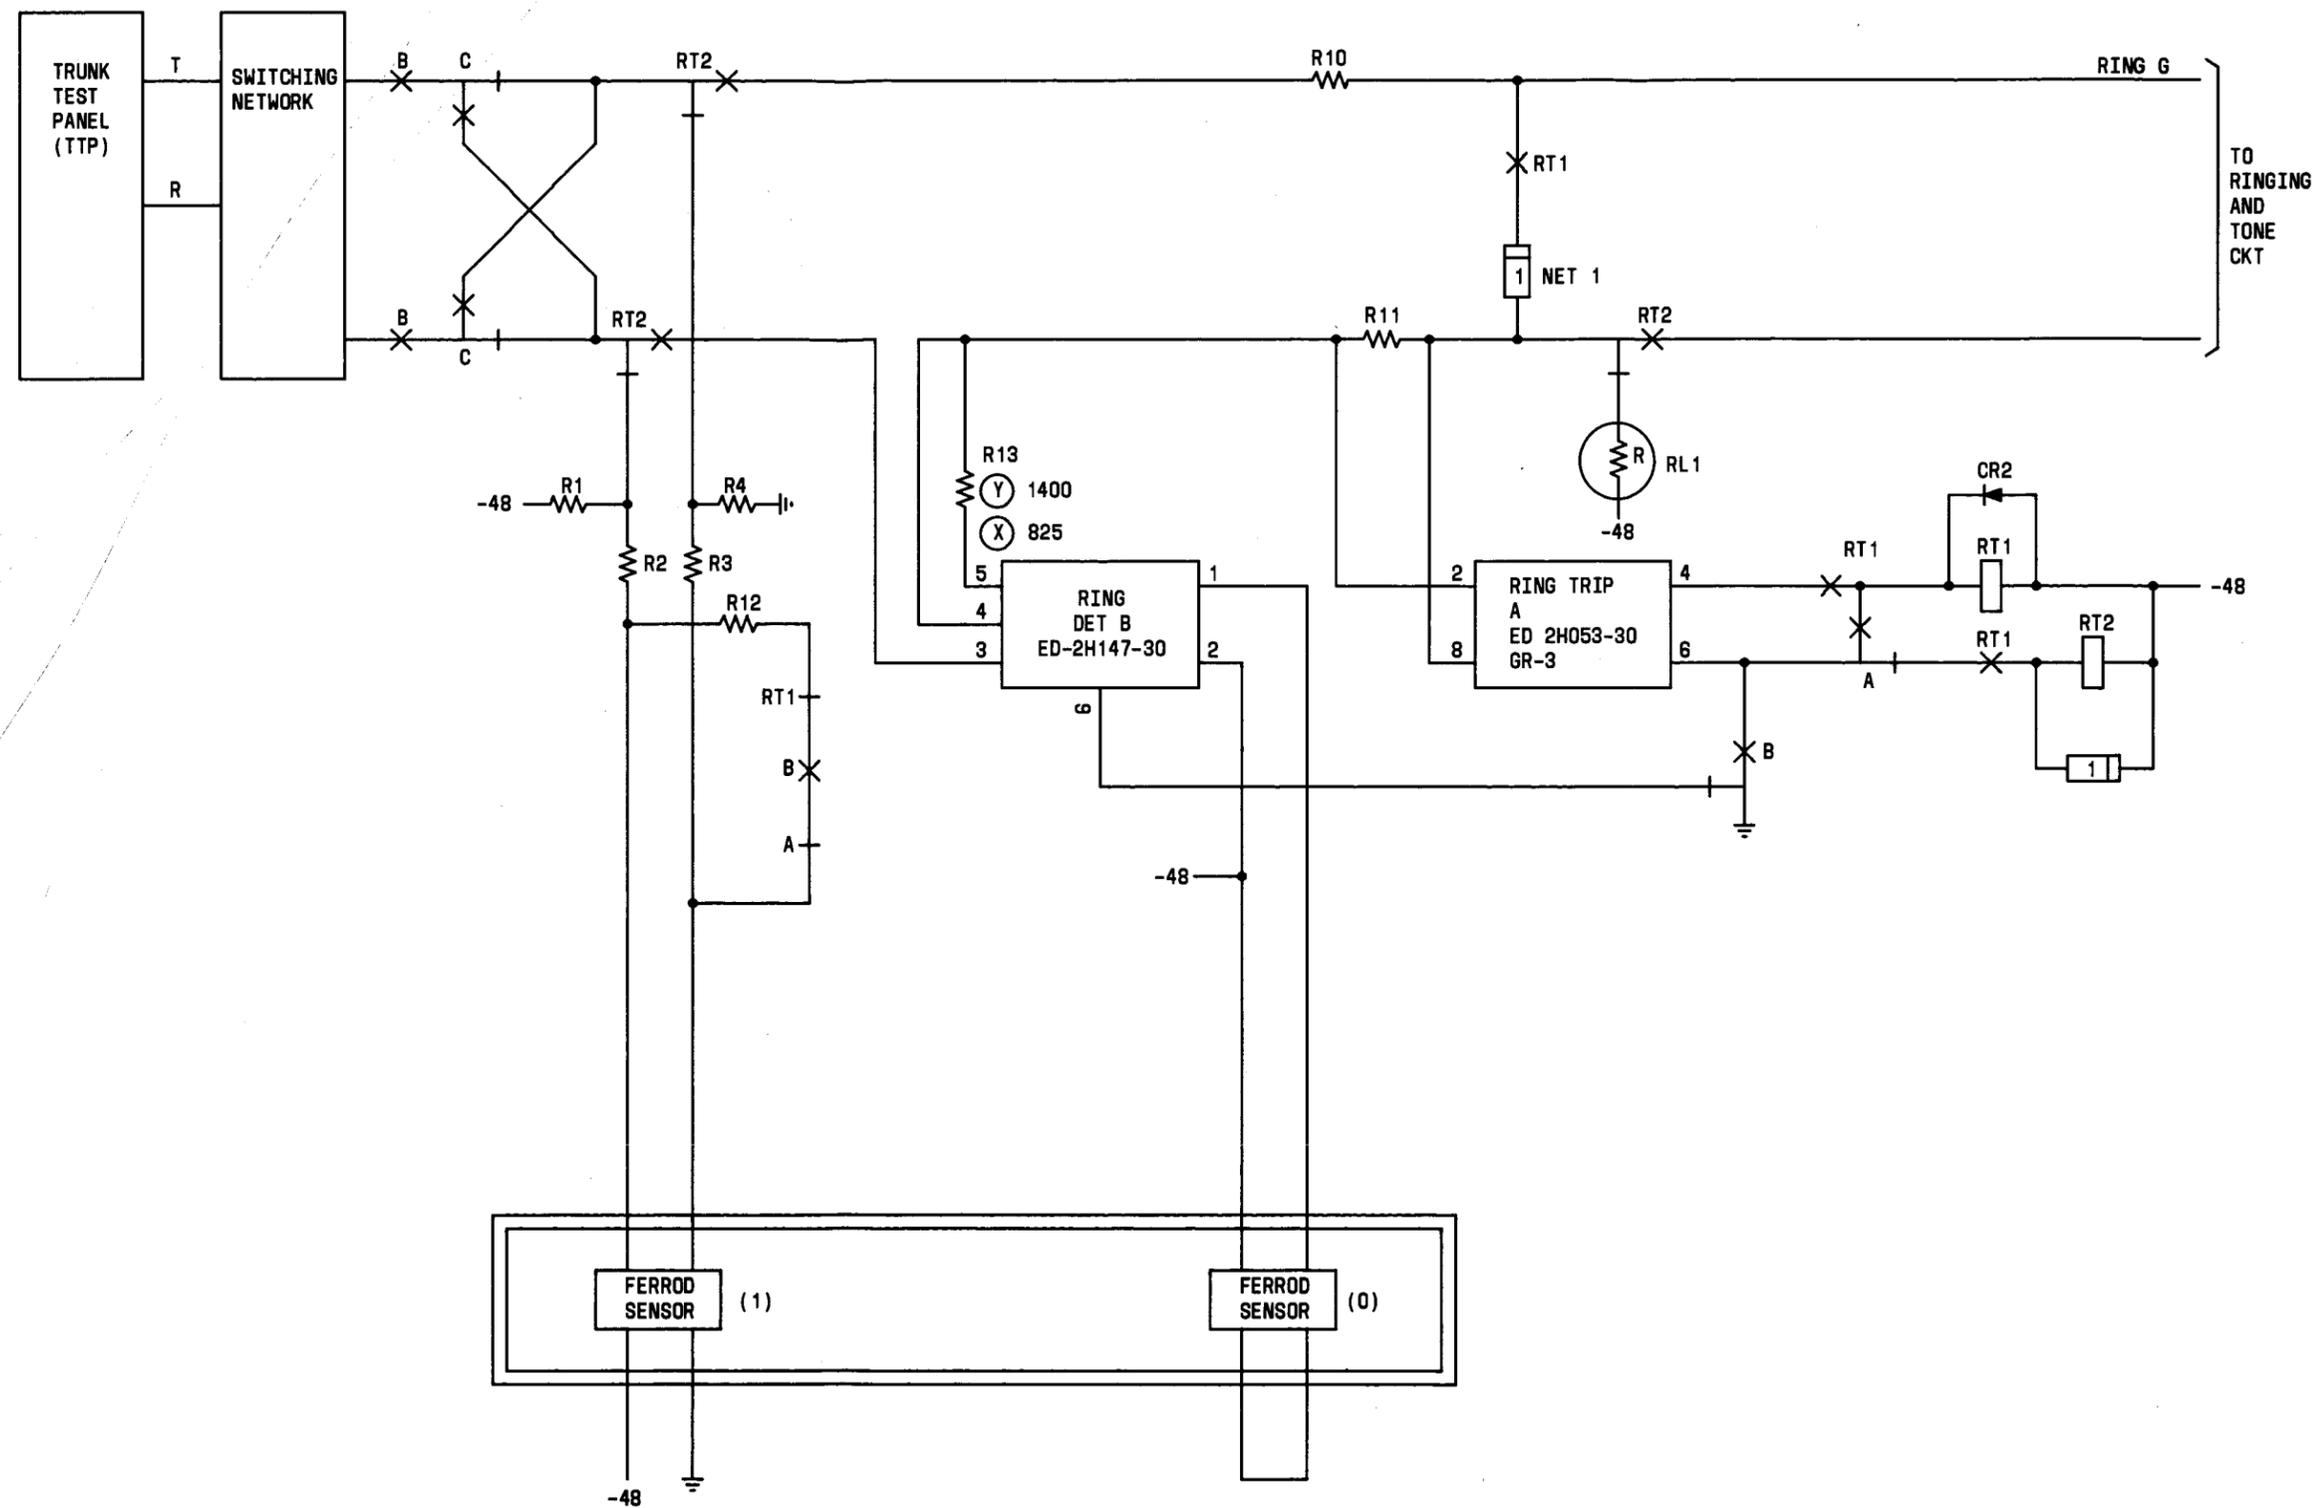
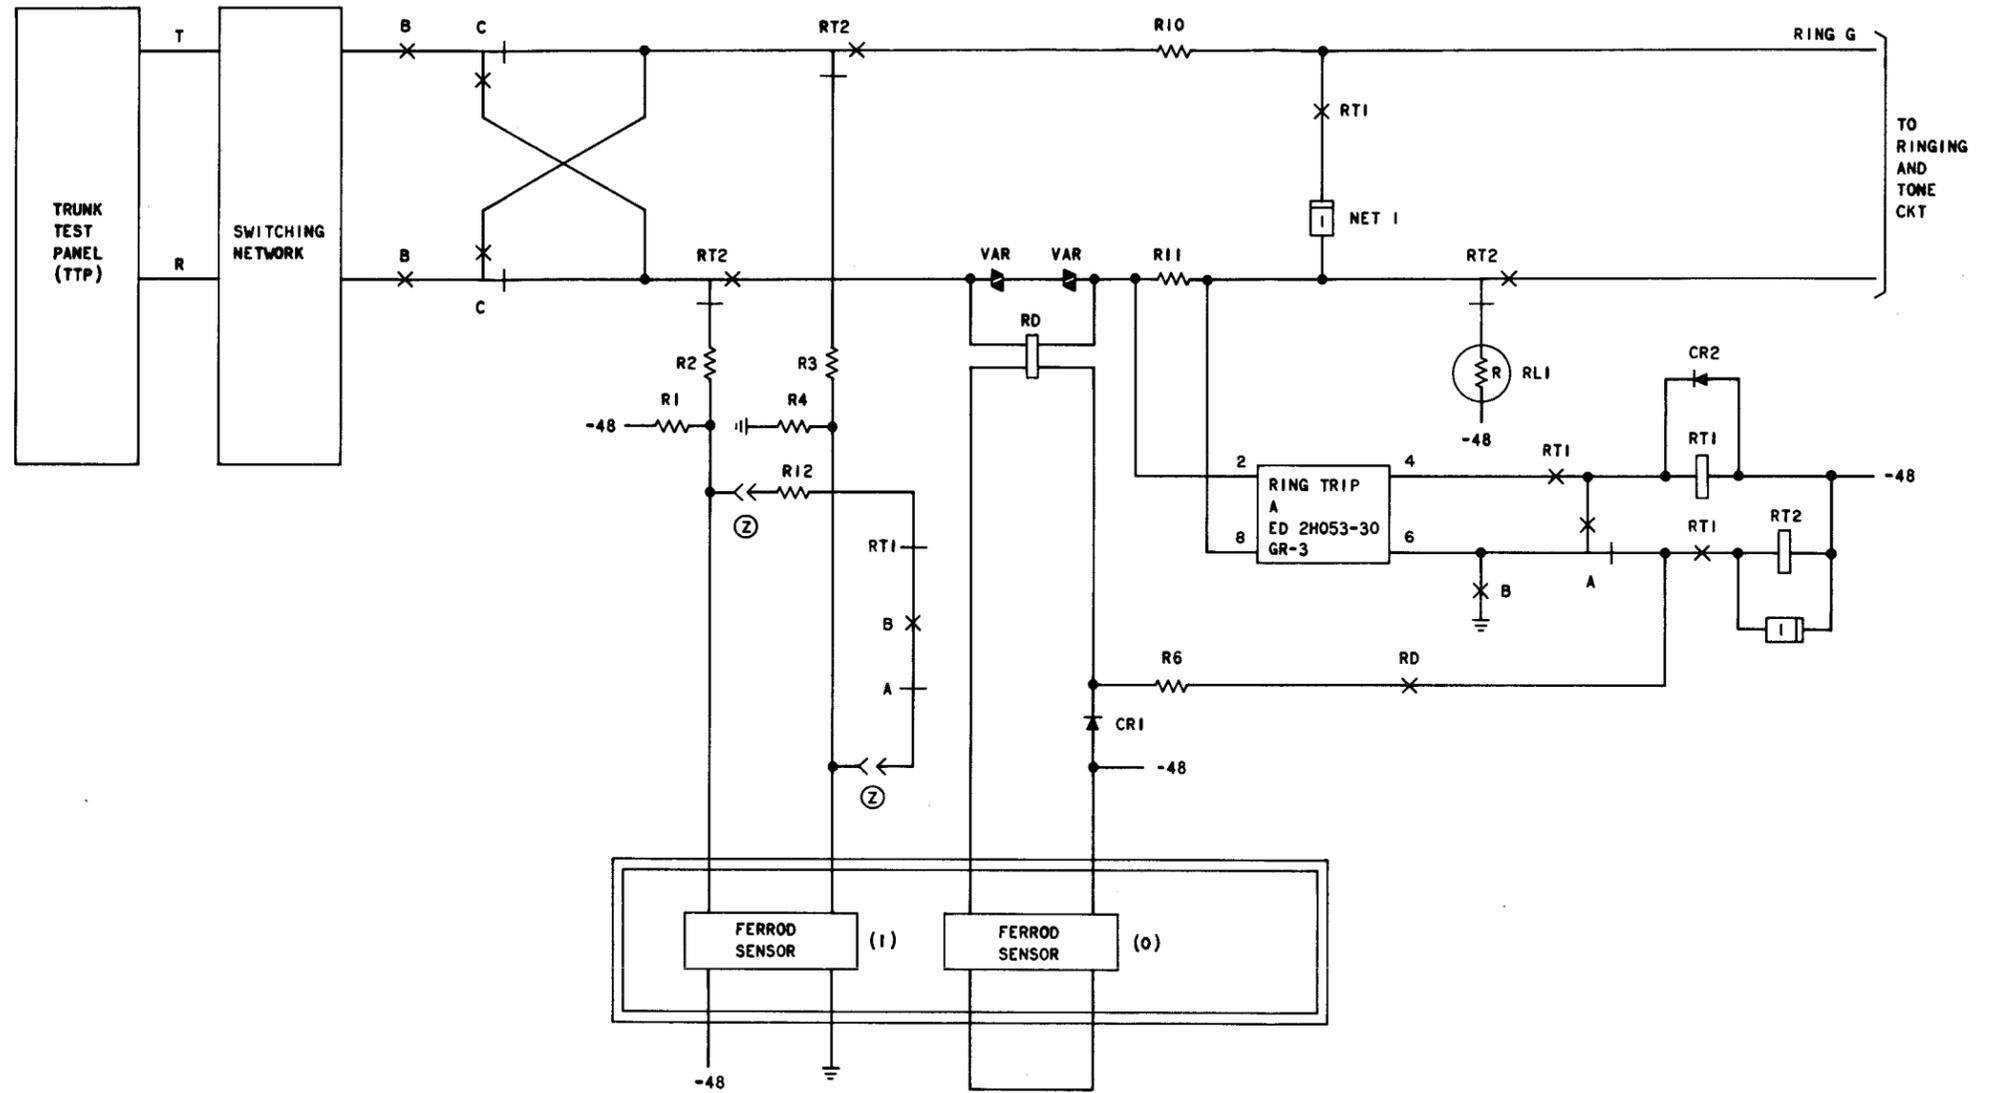

Fig. 1 — Test Configuration Using Trunk Test Panel When Testing a Ringing Circuit—FS1
Fig. 2— Test Configuration Using Trunk Test Panel When Testing a Ringing Circuit—FS2
3.03 The following is a step-by-step procedure to make the ringer circuit traffic busy and connect it to the TTP (Fig. 1 or Fig. 2).